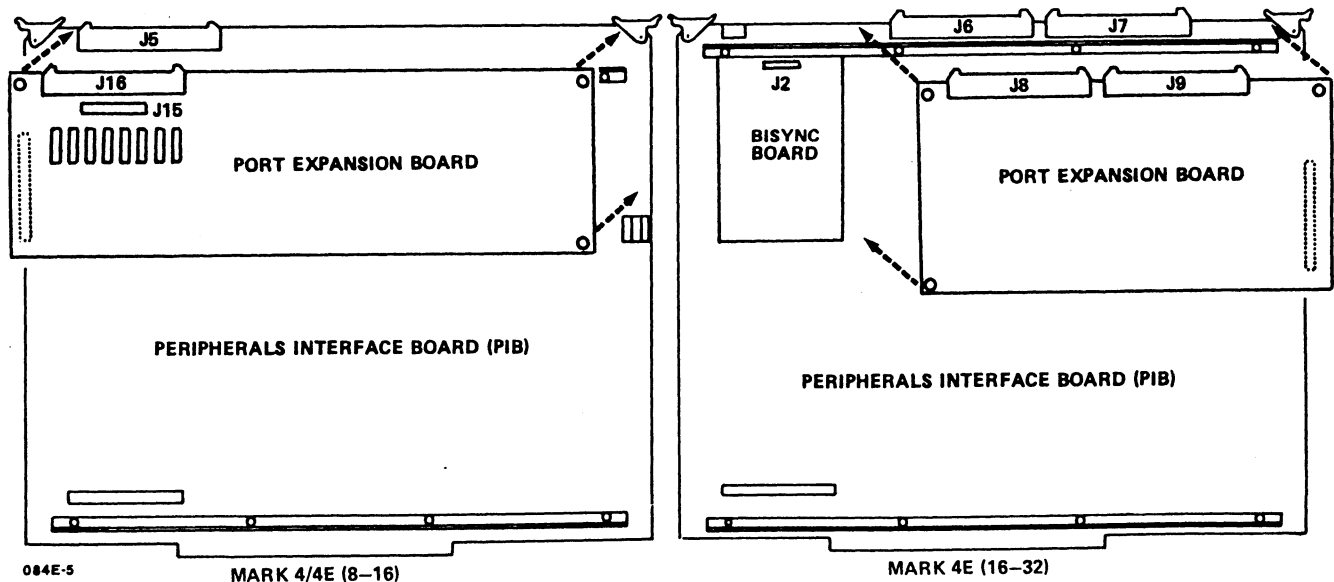

Figure 2-4. Location of the Port Distribution Cables
5. Disconnect the port distribution cables (see Figure 2-4).